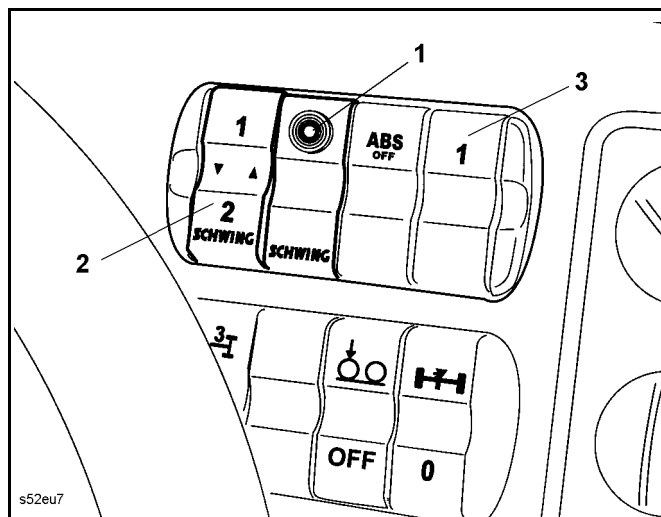
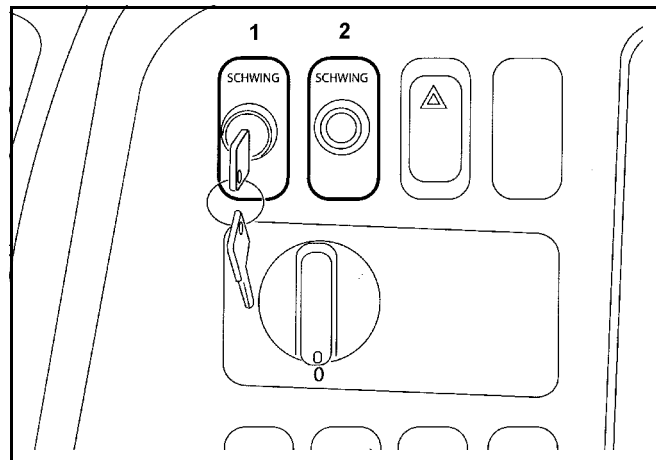

Fig. 116 Cab toggle switch
Fig. 117 Cab key-operated switch
Toggle switch (2) (**Fig. 116**) or key-operated switch (1) (**Fig. 117**).
- If necessary, switch on the support lighting, e.g., by using the toggle switch (3) (**Fig. 116**).